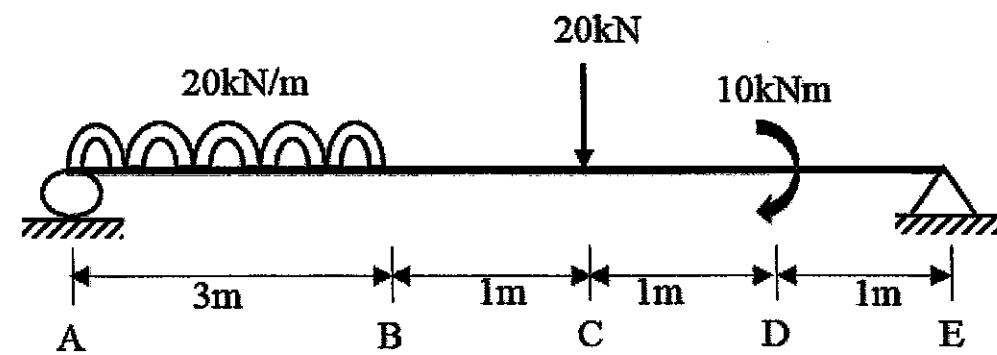

Figure A2(c) / Rajah A2(c)
- (c) A simply supported beam is loaded as shown in Figure A2(c). Sketch the shear force and bending moment diagrams of the beam